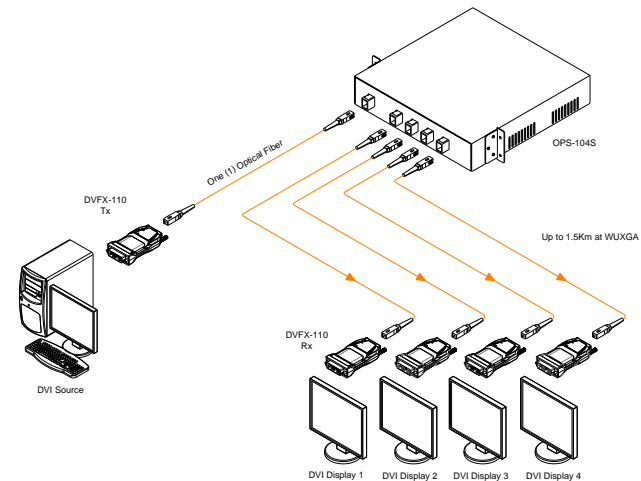

Figure 5 – Connection diagram using optical splitter, OPS-104S
| Figure 5 – Connection diagram using optical splitter | 1-4 |
By using an optical splitter OPS-xyz, one (1) signal from **DVFX-110** transmitter can be copied up to sixteen (16) times as shown in figure 5. For more information, please refer to user's manual of OPSR-2, OPX-xyz.